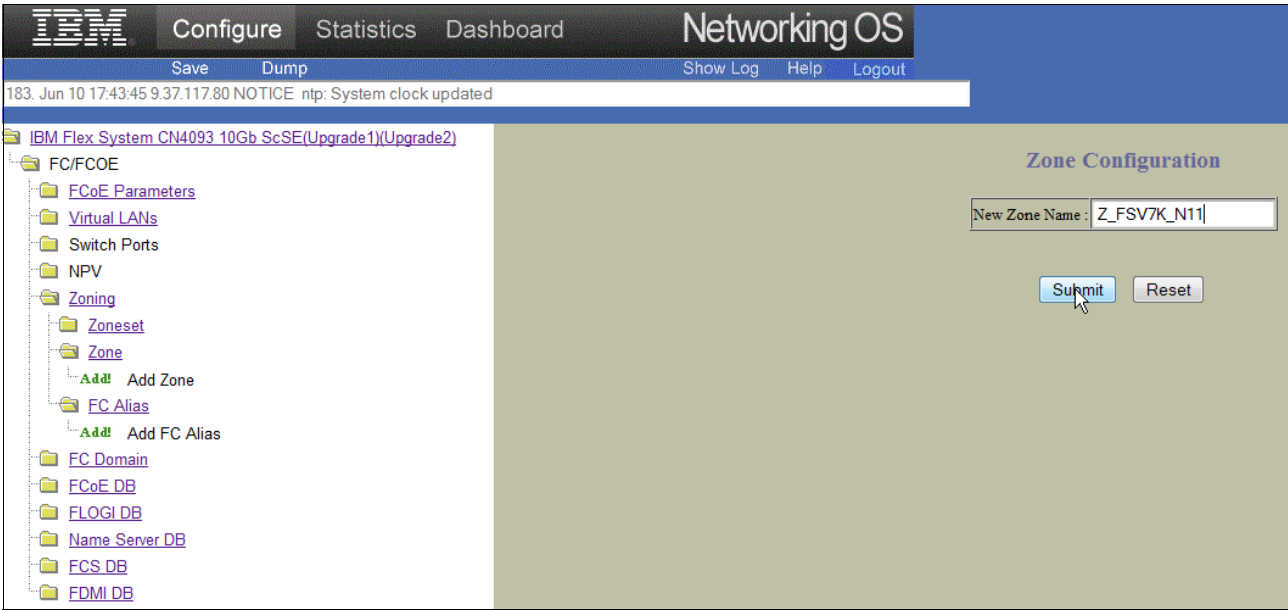

Figure 8-11 Define Zone name
10.Add a new zone. In our example, this is **Z_FSV7K_N11**. Click **Submit** as shown in Figure 8-11.